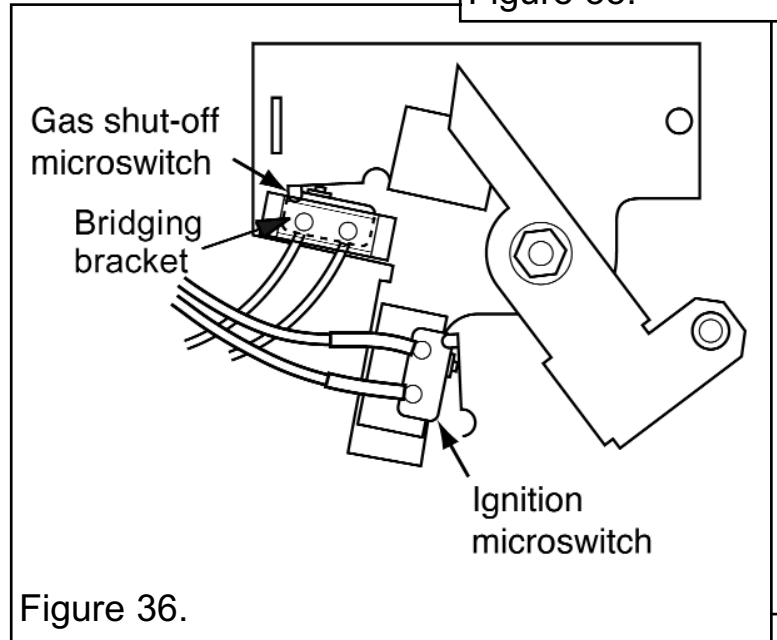

Figure 36.
(See figures 36).
2. Disconnect the leads from the ignition microswitch (The lower of the two microswitches - See figure 36).
(See figures 36 & 37).
3. Detach the bridging bracket, microswitch assembly by removing two screws (See figure 36).